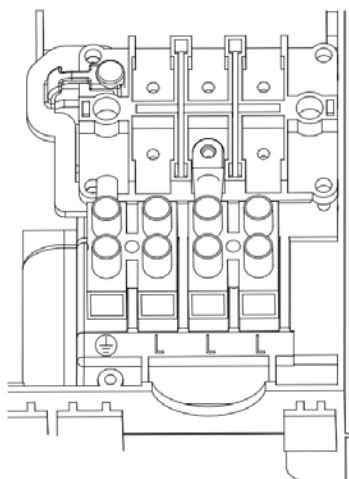

Figure 12: Electrical Connections
- m) Make connections at \oplus , L, L, L as shown in **Figure 12** on page 26 and tighten the screws firmly. Phase rotation is not important.